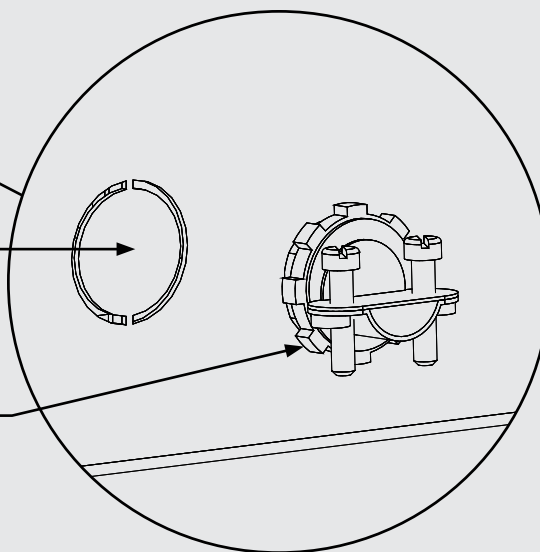

Figure 2
3. Install and secure the commercial electrical connector (not included) in the hole provided on the rear panel. **(Figure 2)**